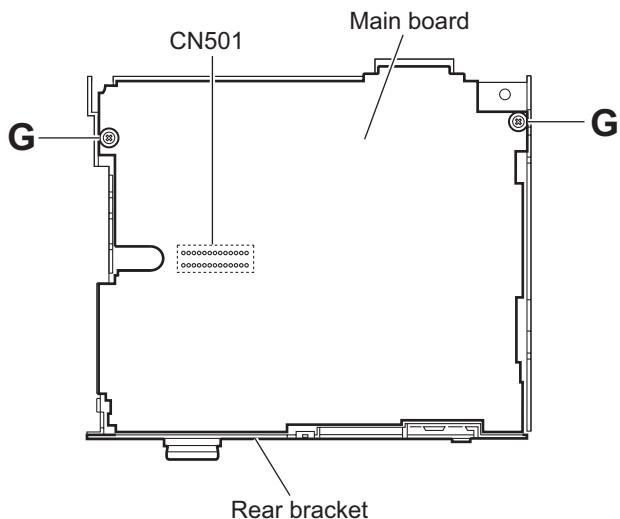

Fig.6
- (2) Remove the two screws **G** attaching the main board. (See Fig.6.)
- (3) Disconnect the connector **CN501** on the main board from the main body and take out the main board with the rear bracket. (See Fig.6.)